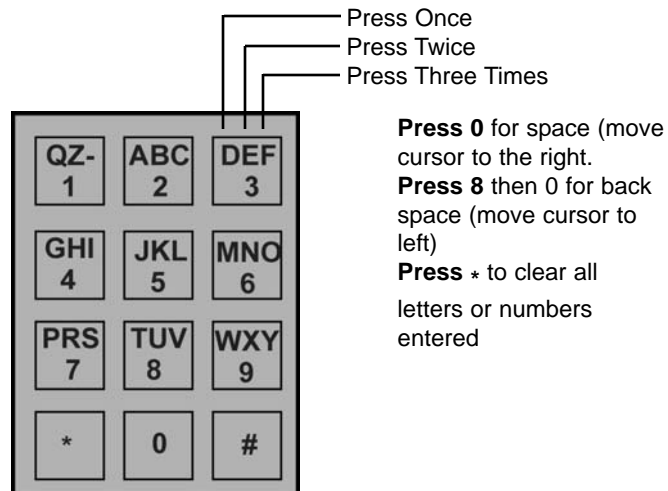

FIGURE 3.1
Step 3 Enter 16 -characters on the first segment by rewriting the existing message or pressing * to clear the segment and reenter the message, see keypad correlation on figure 3.1, press # on every character you have entered and press ## after the last character you have entered on each segment, then the display shows
<p style="text-align: center;">20</p> <p style="text-align: center;">NEW TENANT CODE</p> <p>consists of tenant code, name and phone number</p> <ul style="list-style-type: none"> • Tenant Code (directory code) must be a unique number. You may use the apartment number, unit number , etc. • The directory code can be 2, 3 or 4 digit. See Function Code 28 to set Directory Digit. • ALL the field must be programmed. • Name up to 12 characters. • Phone number up to 11-digit. 	<p>Step 1 Log on to programming mode (see section 3.1). The display shows</p> <div style="border: 1px solid black; padding: 2px; text-align: center;"> SELECT PROGRAM ENTER: __ PRESS # </div> <p>Step 2 Enter Function Code 20 then press # and the display shows</p> <div style="border: 1px solid black; padding: 2px; text-align: center;"> NEW TENANT CODE ENTER: ___ PRESS # </div> <p>Step 3 Enter a new tenant code then press # (if the directory is already in used, the display shows TENANT EXIST), the display shows</p> <div style="border: 1px solid black; padding: 2px; text-align: center;"> TENANT NAME ----- </div> <p>Step 4 Enter a tenant name up to 12 characters then press # after entering each character and press ## after entering the last character (see figure 3.1 for keypad correlation), the display shows</p> <div style="border: 1px solid black; padding: 2px; text-align: center;"> TELEPHONE NUMBER ----- </div> <p>Step 5 Enter a telephone number up to 11-digit then press enter, the display shows</p> <div style="border: 1px solid black; padding: 2px; text-align: center;"> SELECT PROGRAM ENTER: __ PRESS # </div> <p>Step 6 Select another Function Code to program different field from the table or press * to exit the programming mode.</p>
<p style="text-align: center;">21</p> <p style="text-align: center;">MODIFY TENANT CODE</p> <ul style="list-style-type: none"> • To modify, you must know the tenant code (directory code) that you assigned on function code 20. • If you do not know use Function Code 78 to find the tenant code. <p>NOTE: Function Code 78 cannot be used if you program a tenant with NO NAME on Function Code 20.</p>	<p>Step 1 Log on to programming mode (see section 3.1). The display shows</p> <div style="border: 1px solid black; padding: 2px; text-align: center;"> SELECT PROGRAM ENTER: __ PRESS # </div> <p>Step 2 Enter Function Code 21 then press # and the display shows</p> <div style="border: 1px solid black; padding: 2px; text-align: center;"> MODIFY TENANT ENTER: ___ PRESS # </div> <p>Step 3 Enter the tenant code to be modified then press # (if the tenant code does not exist, the display shows TENANT NOT EXIST and proceed to step 4), the display shows</p> <div style="border: 1px solid black; padding: 2px; text-align: center;"> TENANT NAME ----- </div> <p>Step 4 Enter a new tenant name (press * to clear the existing one) up to 12 characters then press # after entering each character and press ## after entering the last character (see figure 3.1 for keypad correlation), the display shows</p> <div style="border: 1px solid black; padding: 2px; text-align: center;"> TELEPHONE NUMBER ----- </div> <p>Step 5 Enter a telephone number up to 11-digit then press enter, the display shows</p>